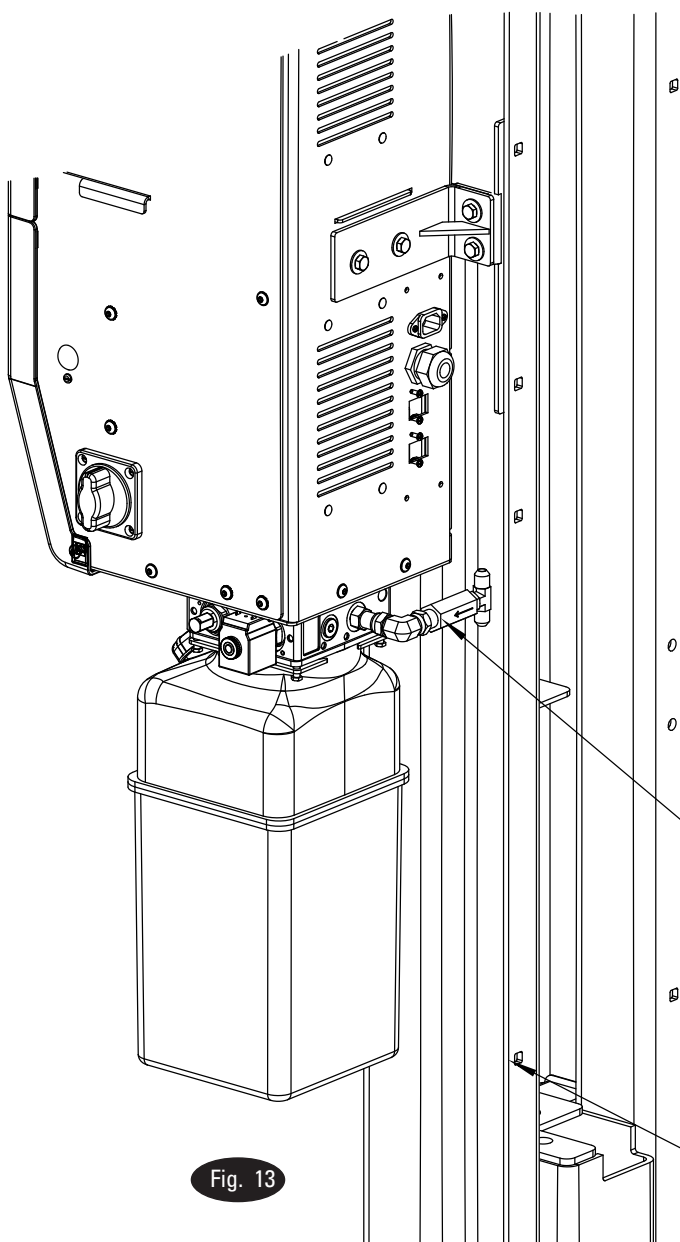

Fig. 13
- a. Attach the included straight thread adapter, swivel elbow, flow regulator and JIC tee, as shown in Figure 13. The straight thread adapter is inserted in the port on the power unit manifold. Torque fittings to 26 Ft-lbs.
- d. Fasten the power unit hose to the column using the included $\frac{1}{4}$ " hose clamp as shown in Fig. 13. Make sure that the power unit hose is adjusted so that it doesn't rub the lift carriage when in the down position.